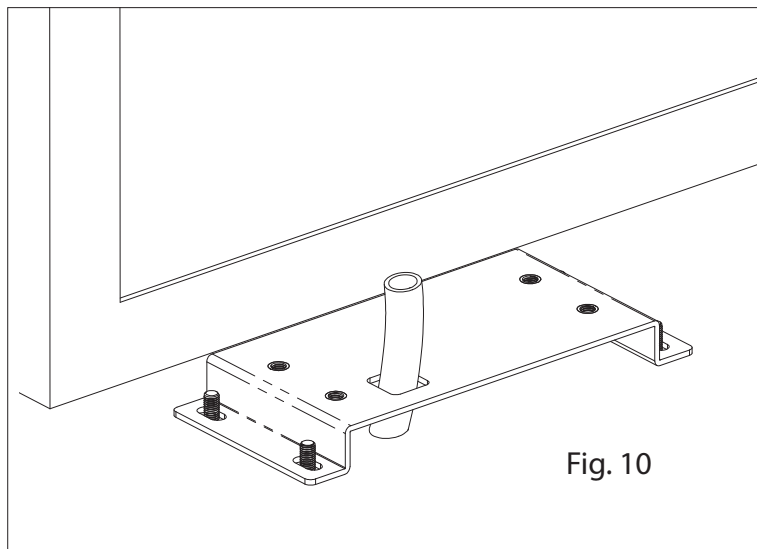

Fig. 10
b) Put the foundation plate to the floor, using adequate expansion plugs and provide one or more tubes for routing the electric cables through the plate (Fig10 and 11).